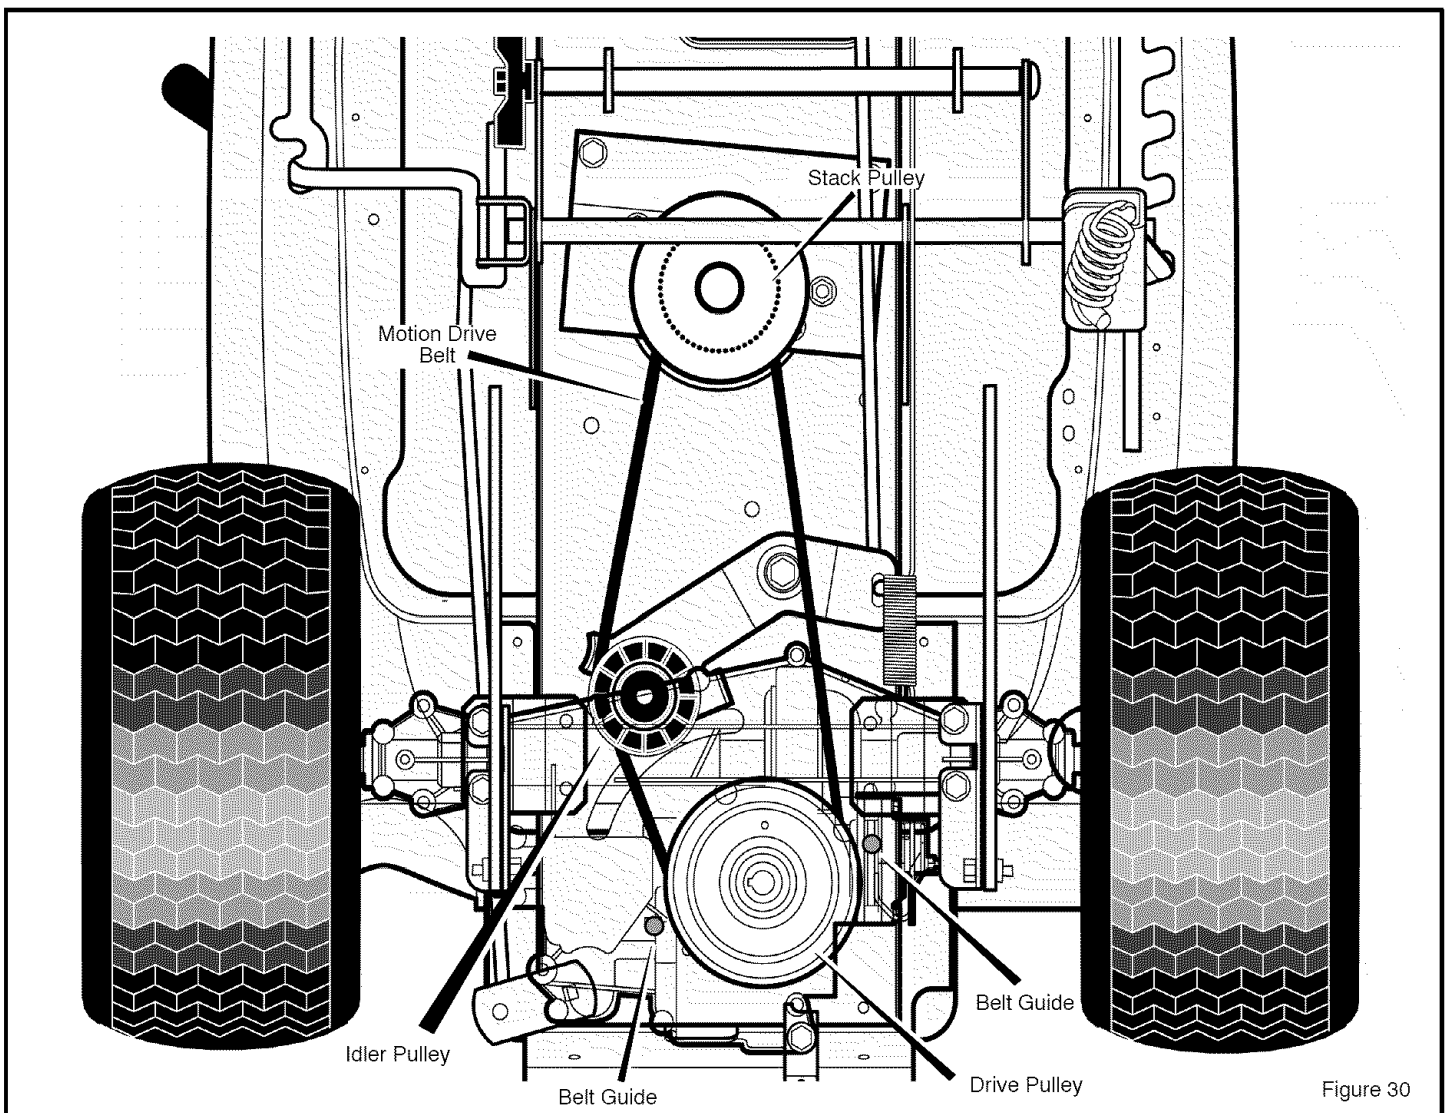

Figure 30
3. Remove the **idler pulley** (Figure 30).
1. Slide the **motion drive belt** between the **stack pulley** and the **belt guides** (Figure 30). Install the **motion drive belt** on the